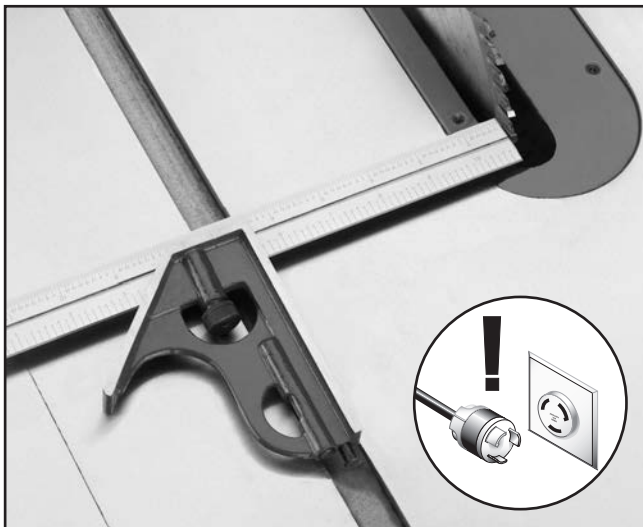

Figure 23. Adjusting blade to miter slot.
2. Use an adjustable square to measure the distance from the miter slot to a carbide tip on the blade as shown in **Figure 23**. Make sure that the face of the adjustable square is even along the miter slot.